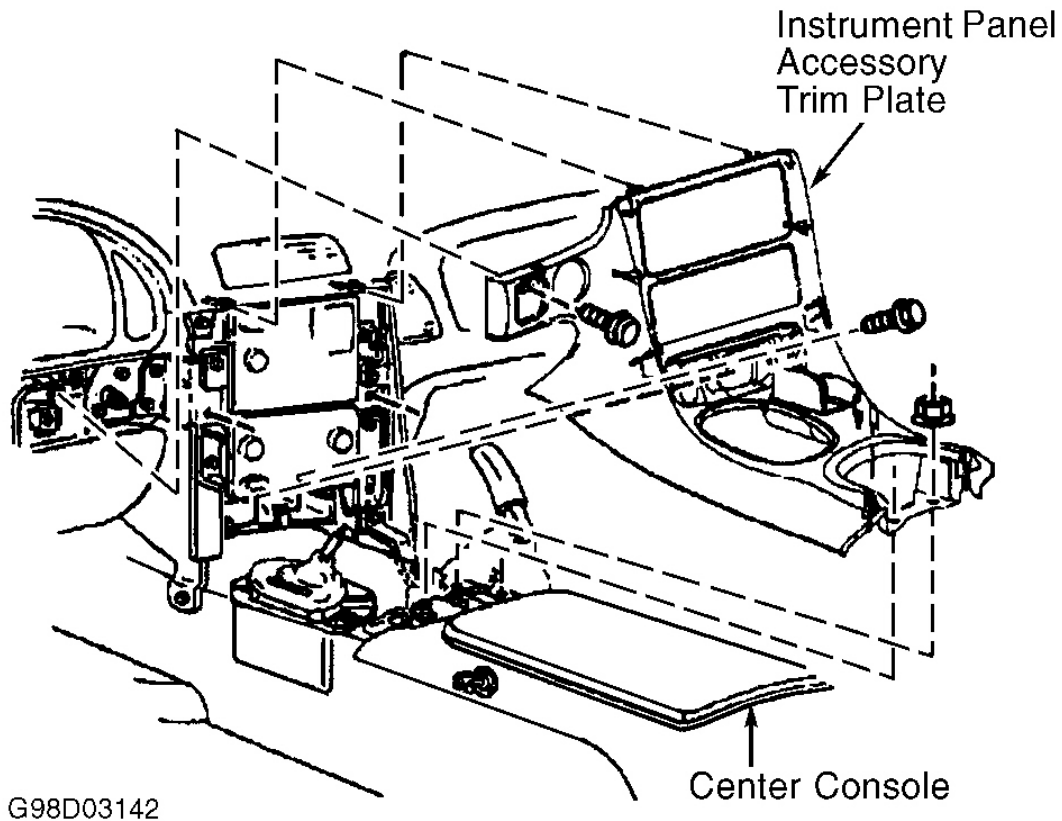

Fig. 6: Removing Instrument Panel Accessory Trim Plate
2. Remove shift boot by gently pulling upward to release tabs. Remove ashtray. Remove instrument panel accessory trim plate grille, located next to ignition switch. Remove screw from behind ash tray and accessory trim plate grille. See **Fig. 6** . Grasp sides of accessory trim plate and pull to rear of vehicle to release clips. Disconnect cigarette lighter connector. Turn shift boot to fit through opening for shifter. Remove instrument panel accessory trim plate.